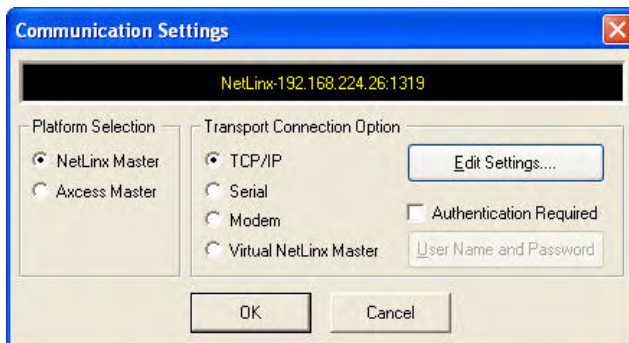

FIG. 83 NetLinX Studio - Communication Settings dialog
3. Click **Communications Settings** to open the *Communications Settings* dialog (FIG. 83).